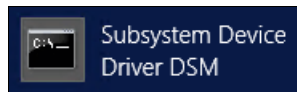

Figure 5-7 Subsystem Device Driver DSM
4. Click **Subsystem Device Driver DSM** (see Figure 5-7).